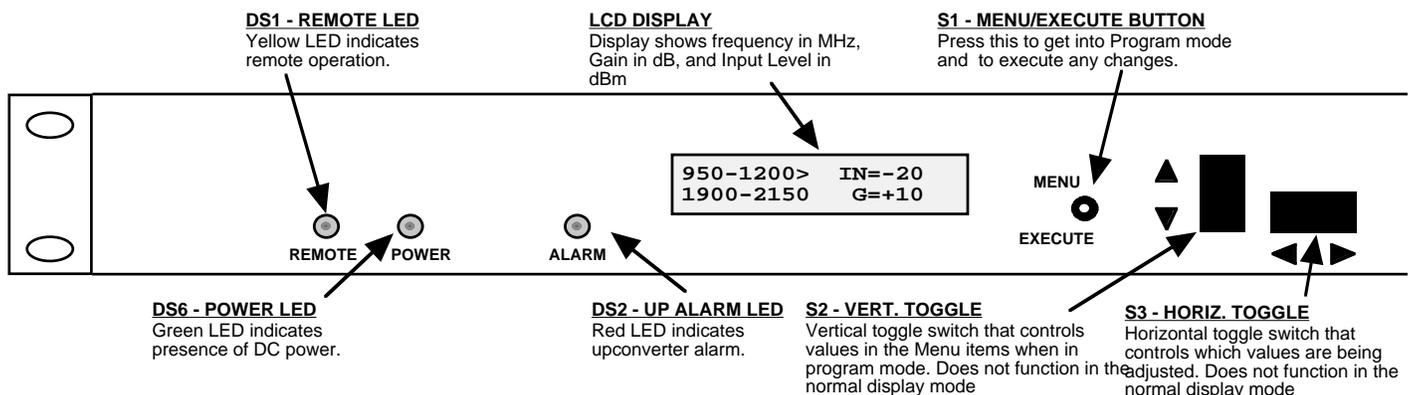

FIGURE 2.2 2083-1222 Front Panel Controls and Indicators
Figure 2.2 shows the front panel controls and indicators.
7. Be sure DS6 (green, DC Power) is on and DS2 (red, Alarm) is off (Figure 2.2).
Alarm indications appear on the LEDs (see Figure 2.2).